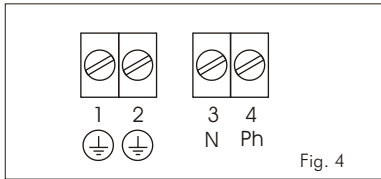

Fig. 4
**1A-** Connect the power supply 230 Vac to the terminal blocks 1,3 and 4 (fig. 4):